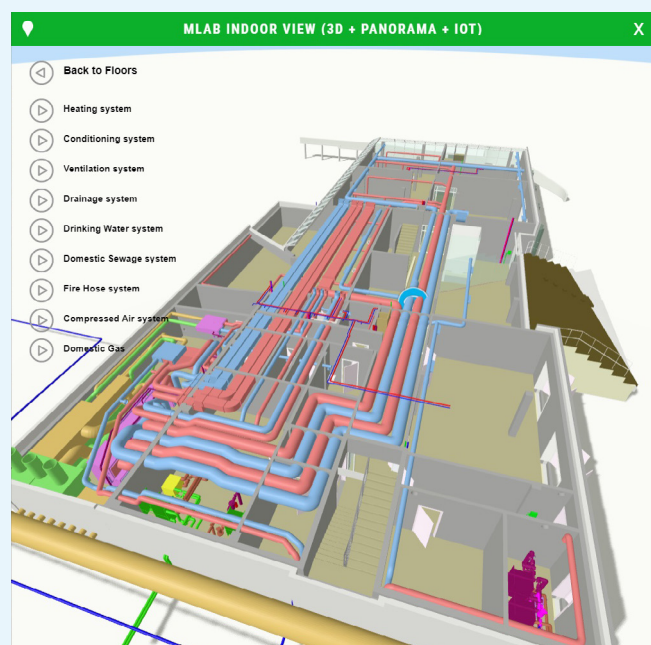

Figure 2. Kaunas University of Technology used digital twins for managing a variety of academic buildings.
- Campus energy management:** At Kaunas University of Technology, Lithuania, a campus-scale digital twin was introduced to manage a diverse portfolio of academic buildings. By bringing together IoT sensor data and building management systems into a single 3D platform, the twin enabled real-time monitoring and predictive analytics across heating, cooling and electricity networks (Figure 2).